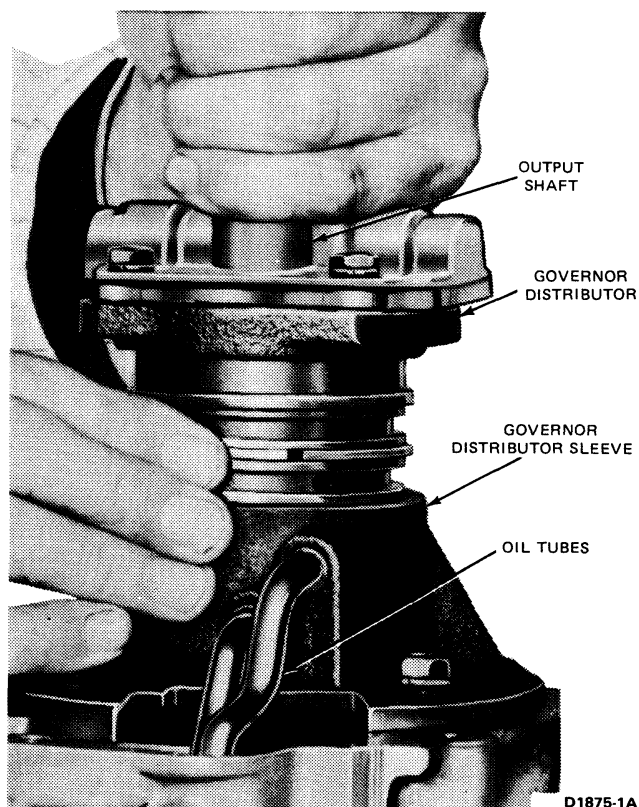

FIG. 28 Removing or Installing Output Shaft and Governor Distributor
21. Pull outward on the output shaft and remove the output shaft and governor distributor assembly from the governor distributor sleeve (Fig. 28).
8. Make sure the governor distributor rings are fully inserted in the ring grooves and will rotate freely. Install the output shaft and governor distributor assembly in the distributor sleeve (Fig. 28).